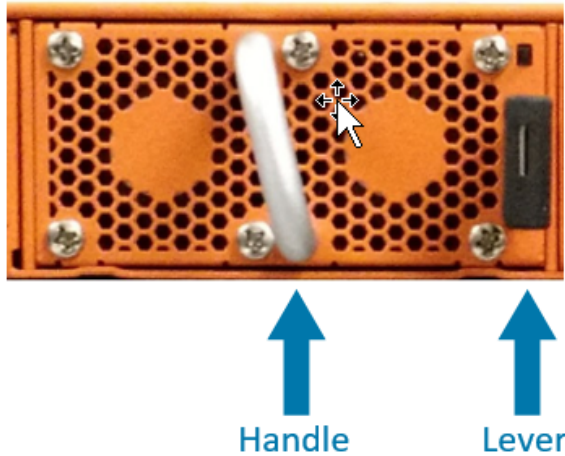

Figure 12 Replacing a Fan (GigaVUE TA Series-TA10 Shown)
1. Locate lever and handle as shown in Figure 12 Replacing a Fan \(GigaVUE TA Series-TA10 Shown\).